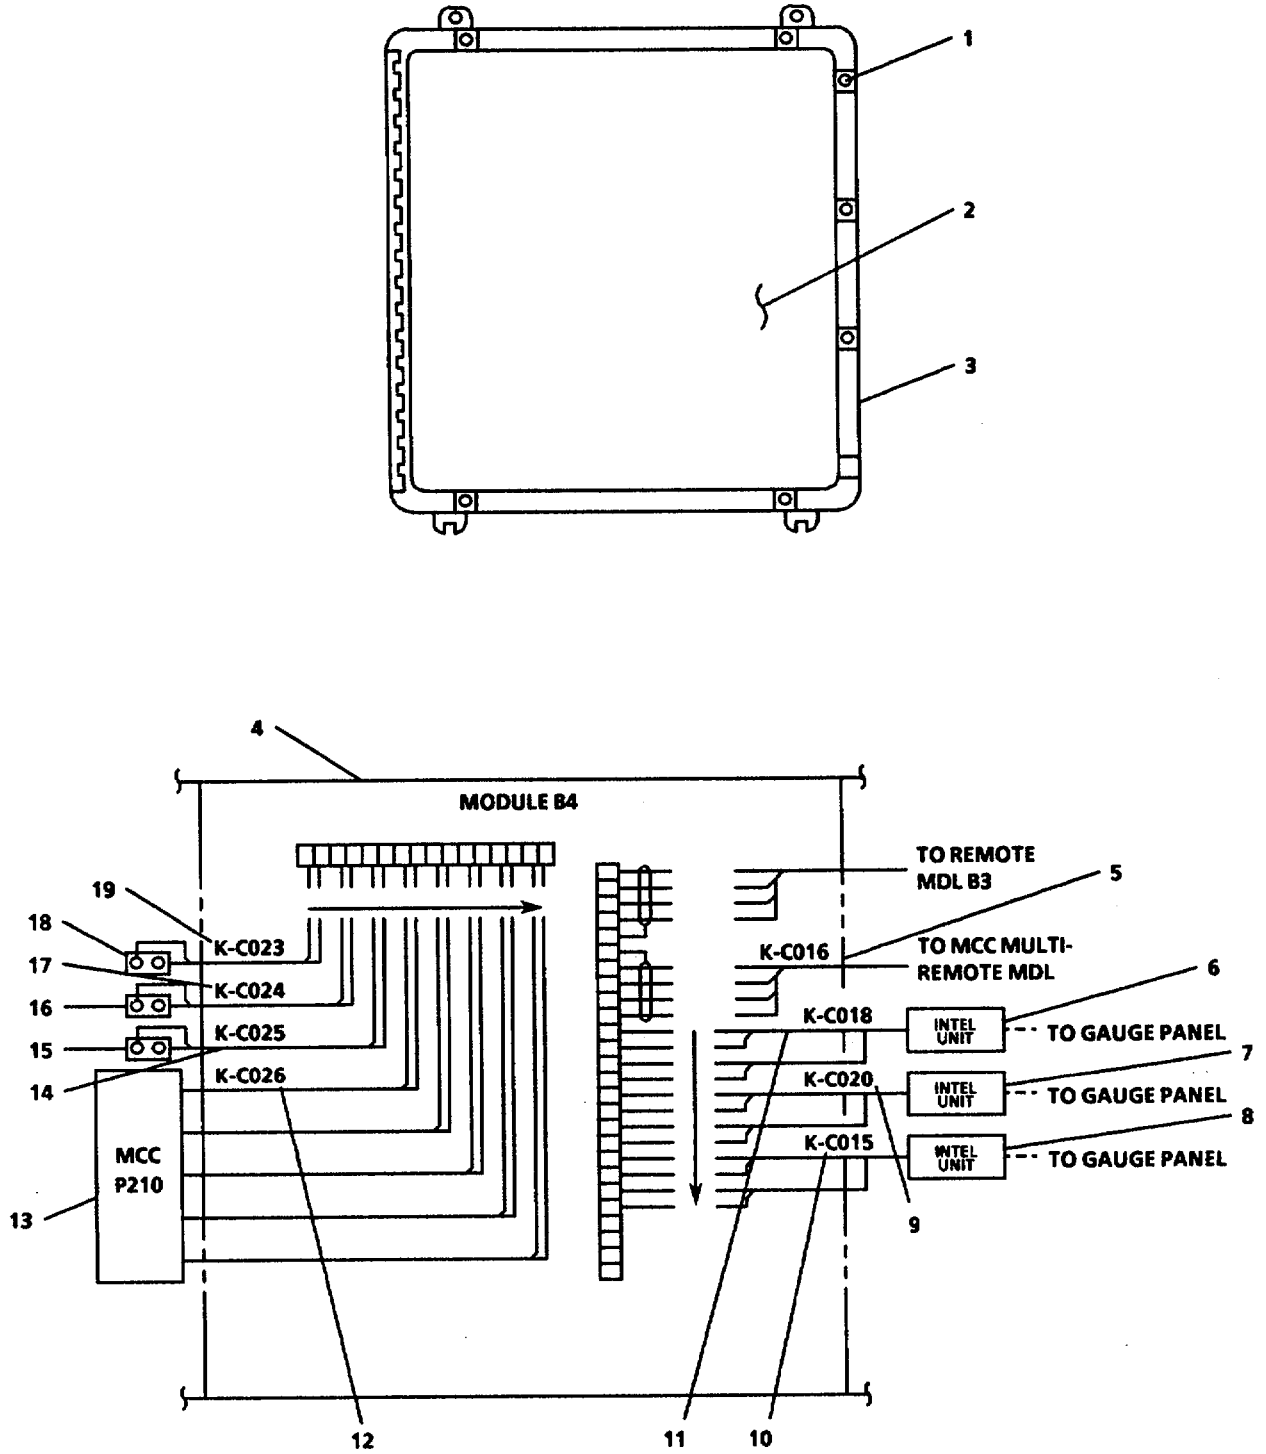

FIGURE 3-119. *Generators Remote Module.*
- a. Position analog remote module assembly (7) in enclosure (6, Sheet 1).
- b. Secure with four hex head nuts (3).
- c. Lift electrical leads up and away from stuffing tubes (9).
- d. Connect electrical leads (10) at terminal boards TB1, TB2, and TB3. Remove tags.
- f. Close door (2) by swinging to the right. Secure to enclosure (6) with two captive screws (1).
**3-130. Replace/Repair Generators Remote Module. (Figure 3-119)**